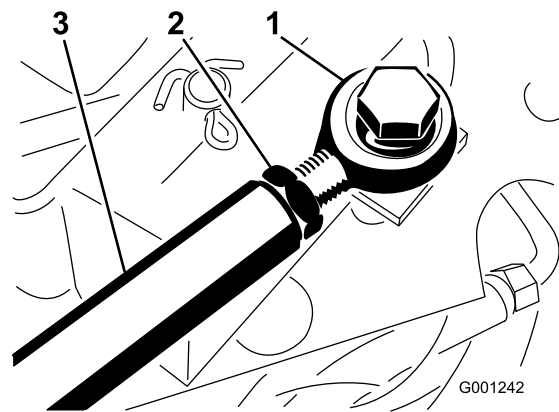

Figure 68
3. If more adjustment is required, adjust the traction rod (Figure 68) as follows: